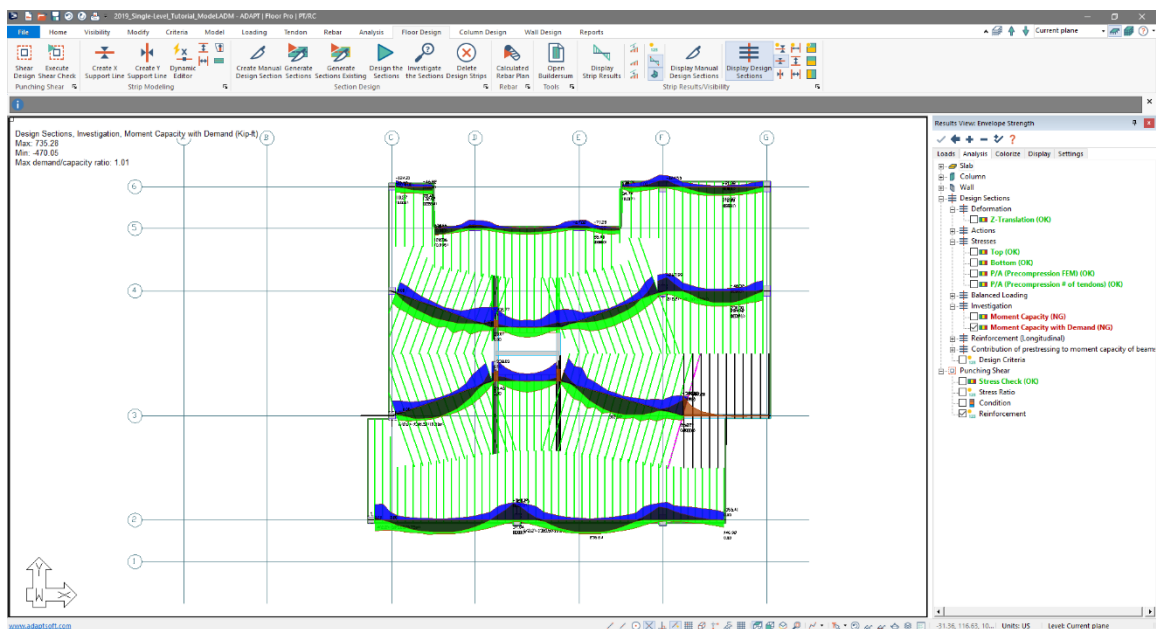

Figure 8-79
- In the *Results Browser's* *Analysis* tab check the box next to *Design Sections* → *Investigation* → *Moment Capacity with Demand* by clicking on it. The user should now see the moment capacity with demand curve along the support line as shown in **FIGURE 8-79**.